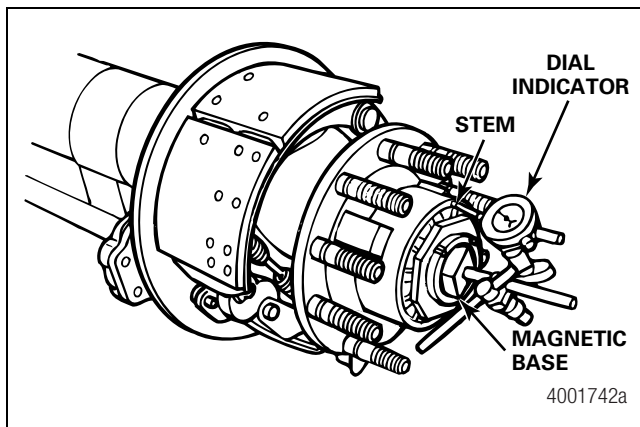

Figure 2.11
2. Attach the magnetic base of a dial indicator to the end of the axle spindle and touch the dial indicator stem against the hub. Figure 2.11.